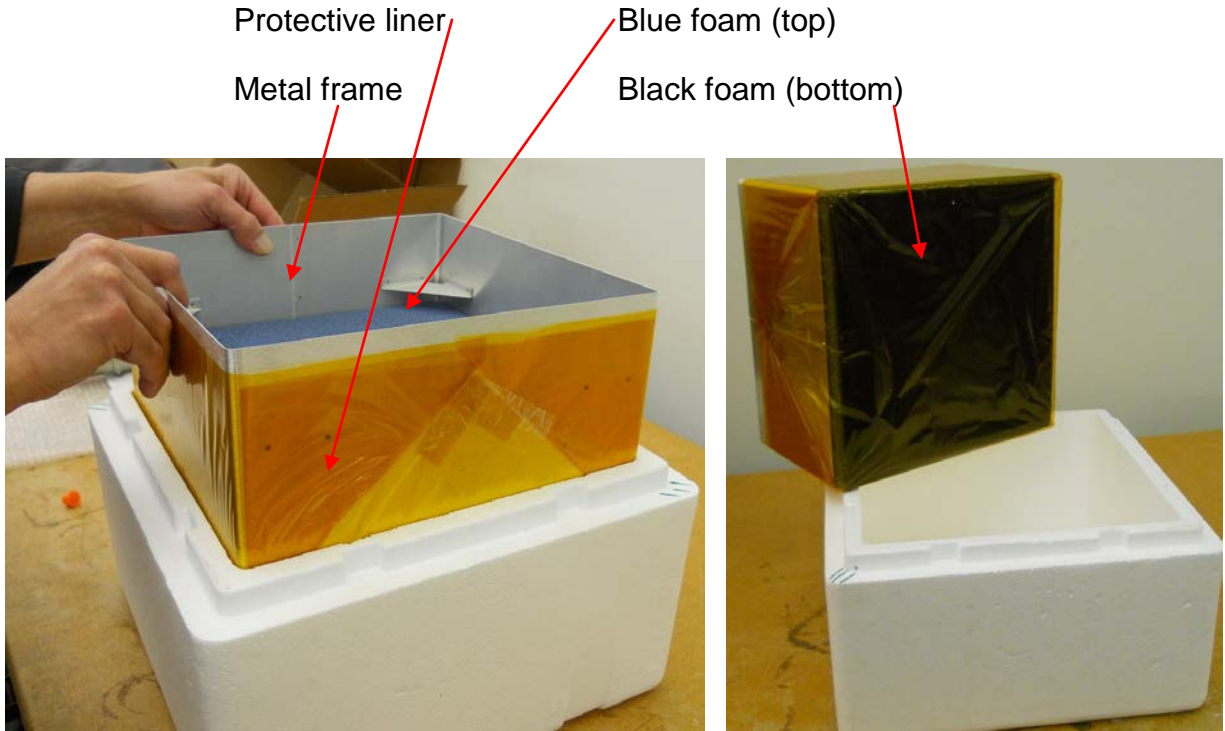

Figure 3. Removing and inspecting microwave absorbing foam
3. Remove the metal frame and microwave-absorbing foam, being careful to not tear the protective liner (Figure 3).